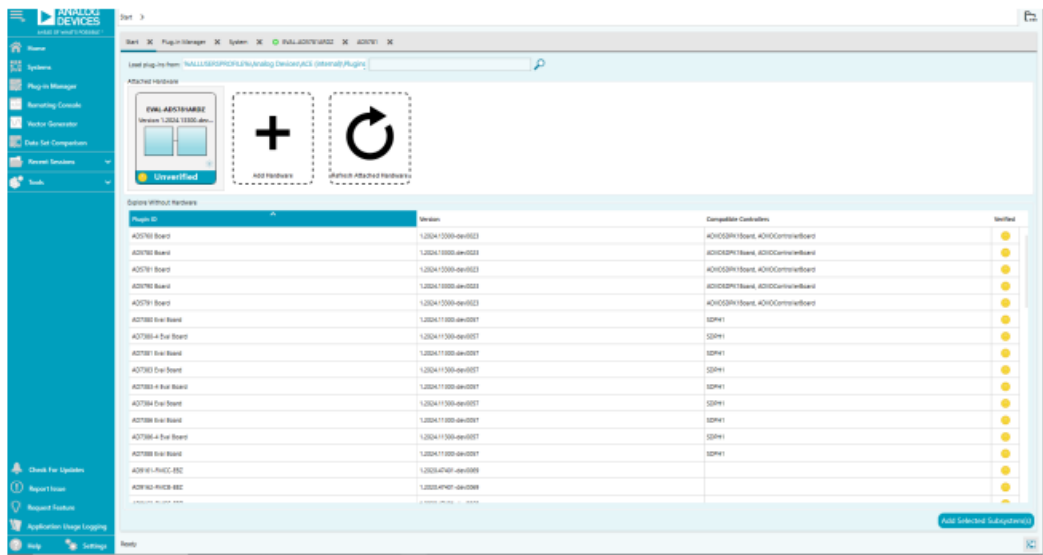

Figure 2. ACE Software Main Window
2. Run the ACE Software application. The EVAL-AD5781ARDZ or EVAL-AD5791ARDZ plug-ins appear in the attached hardware section of the Start tab, as shown in Figure 2.